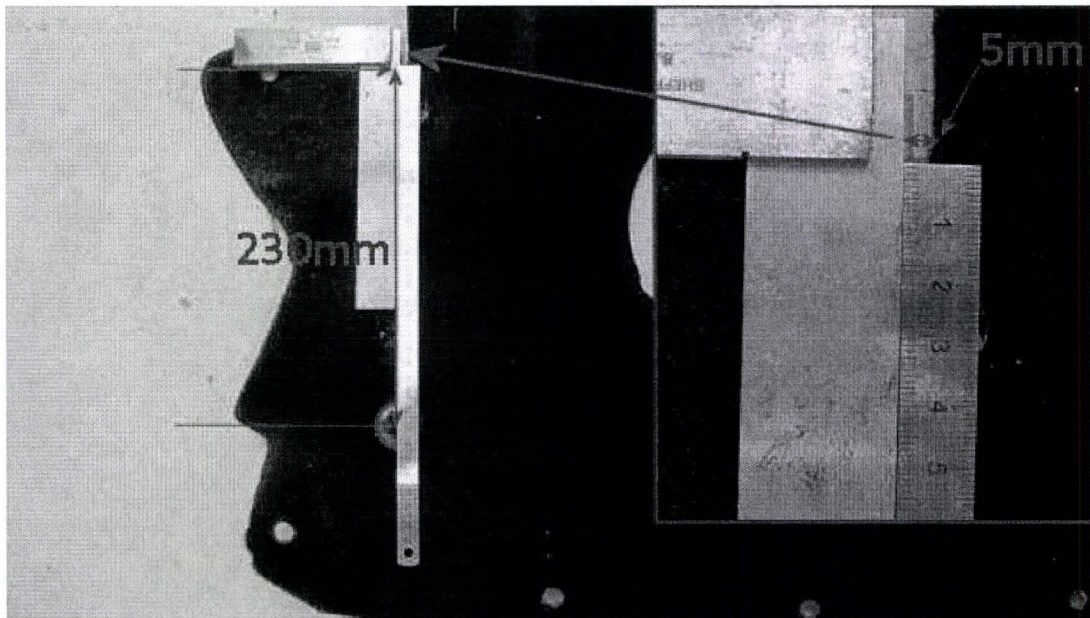

Figure 3
1. Produce two 30 mm holes in the tonneau carpet panel. Position each hole at 230mm along a line drawn 5mm out and at 90° to the vertical C flap cut out on the panel (see Figure 3, 4 and 5) Note in Figure 3 and 4 above the hole position has been highlighted by a white chalk circle